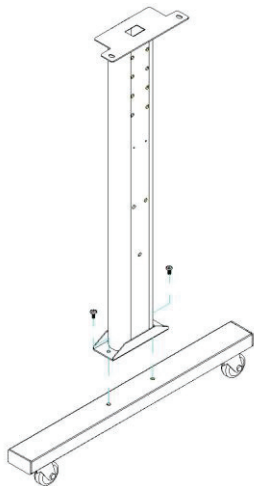

Figure 2-1
- Assemble the base beam to the side beam with 2 screws to form a T-shape stand. (See Figure 2-1)